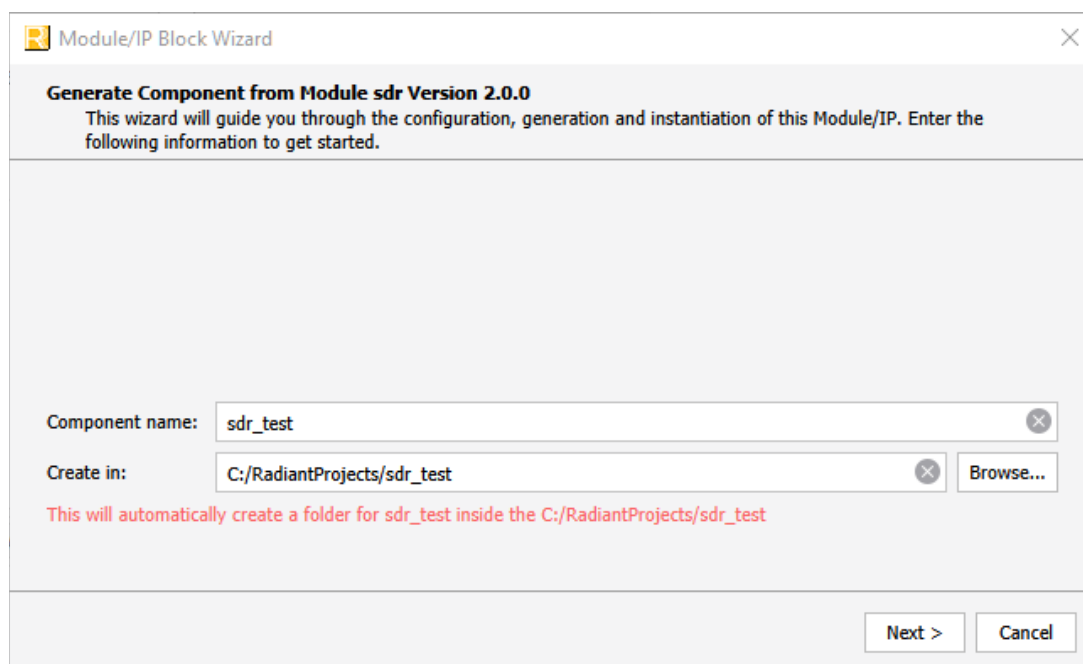
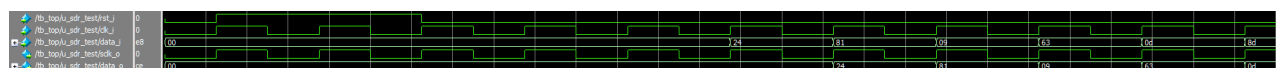

Figure 3.1. Module/IP Block Wizard
Figure 3.6. Simulation Waveform
2. In the **IP Catalog** tab, double-click on **SDR** under **Module, Architecture_Modules, IO** category. The **Module/IP Block Wizard** opens as shown in Figure 3.1. Enter values in the **Component name** and the **Create in** fields and click **Next**.
- Click the **Finish** button. All the generated files are placed under the directory paths in the **Create in** and the **Component name** fields shown in Figure 3.1.
Note: It is necessary to follow the procedure above until it is fully automated in the Lattice Radiant Software Suite. The results of the simulation in our example are provided in Figure 3.6.
Functional Description	- Updated the content of 2.2 Functional Diagrams. - Added sections 2.2.1.1 – 2.2.1.7, and sections 2.2.2.1 – 2.2.2.6. - Updated Figure 2.3 – Figure 2.8. - Updated Figure 3.1 – Figure 3.6. - Removed Figure 2.9 – Figure 2.21. - Updated the description for rst_i in Table 2.2 and Table 2.3.